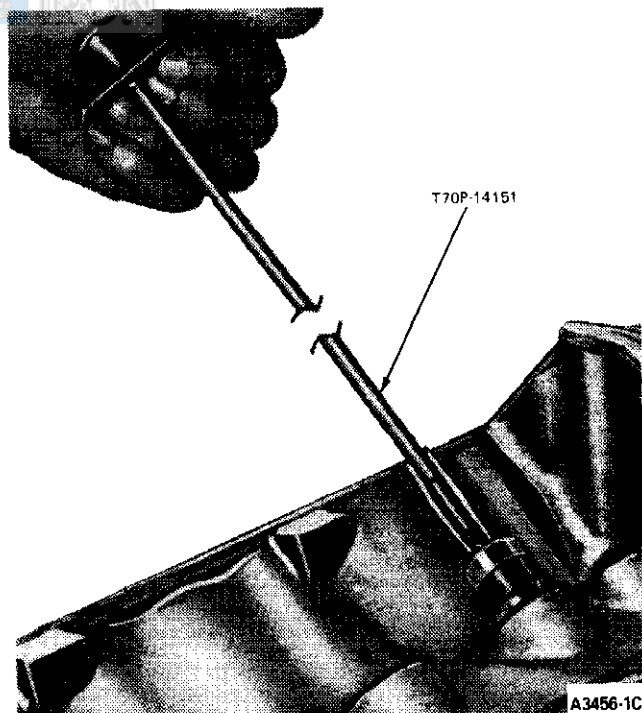

FIG. 16 Removing Hydraulic Tappets
3. Using tool T70P-14151, remove the tappet(s) and place them in a rack so that they can be installed in their original bores (Fig. 16). If removing tappet through adjacent pushrod hole, use a small light to aid in transferring tappet into position for lifting out with T70P-14151 Tool.